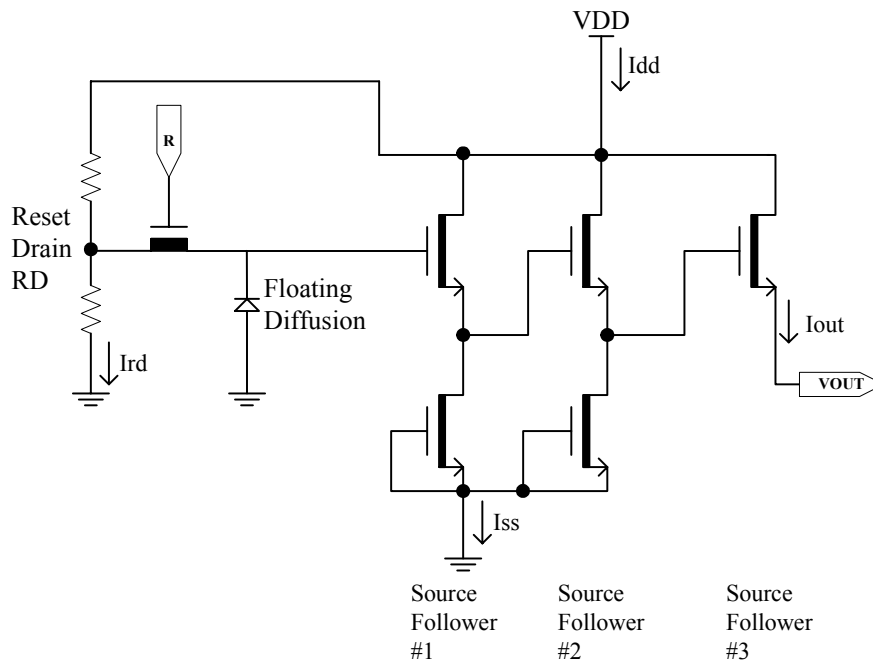

Figure 11: Output Amplifier
- Each output. See Figure 11: Output Amplifier. Note that the current bias affects the amplifier bandwidth.
1. The maximum DC current is for one output unloaded and is shown as $I_{rd} + I_{ss}$ in Figure 11. This is the maximum current that the first two stages of one output amplifier plus the reset drain bias circuit will draw. This value is with V_{out} disconnected.